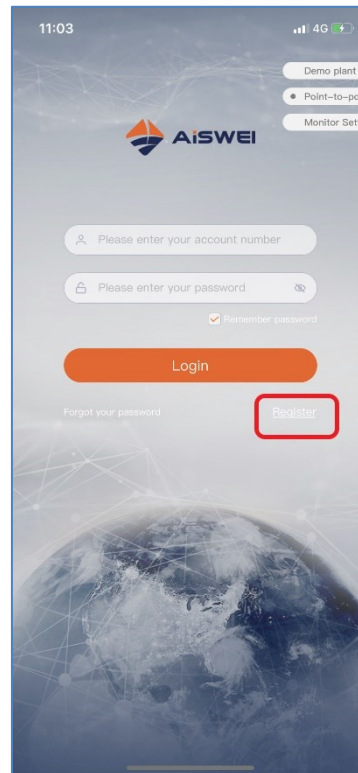
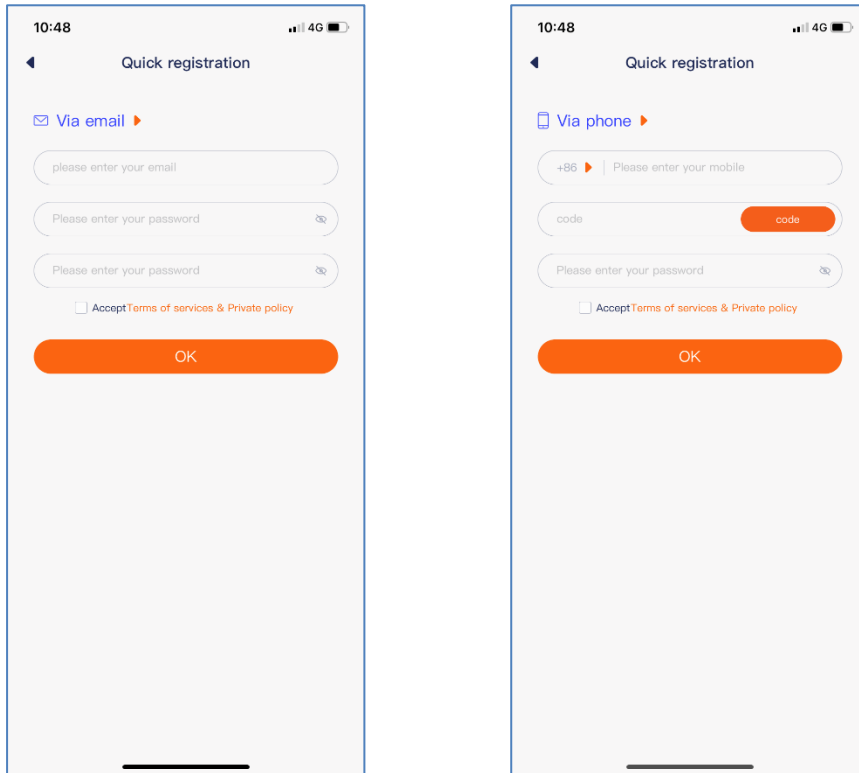

Figure 2-1-1 Homepage Page
Figure 2-1-2 Registration Page (Tab Switching Email/Mobile Phone)
Step 1: Download and install the AiSWEICloud APP, and open the APP as shown in Figure 2-1-1.
Step 2: Click the “Register” button in red in Figure 2-1-1 to enter the registration page, as shown in Figure 2-1-2.
Step 3 (1): Register by email (as shown in Figure 2-1-2): Enter the available email and login password (the password length should be greater than 6 digits but less than 32 digits, and it may be English letters A (a)-Z (z) and numbers 0 to 9).
Step 3 (2): Register by mobile phone (as shown in Figure 2-1-2): Enter the available mobile phone and login password (the password length should be greater than 6 digits but less than 32 digits, and it may be English letters A (a)-Z (z) and numbers 0 to 9).
Step 4 (1): Register by email: Upon completion of registration, AiSWEICloud will send an activation email to you so that you can activate your AiSWEICloud account based on the information in the email. If you don't receive an activation email, please look for it in the spam box.
Step 4 (2): Register by mobile phone: After filling in the mobile phone number, AiSWEICloud will send a verification SMS to you and you can use your AiSWEICloud account after inputting the correct verification code.